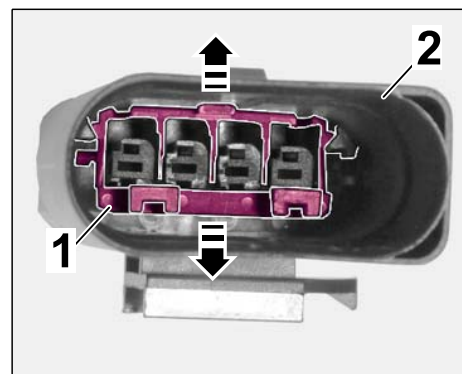

Figure 25
2.4.1 Unlocking the socket housing (4-pin, see parts list) (⇒ *Figure 25*).